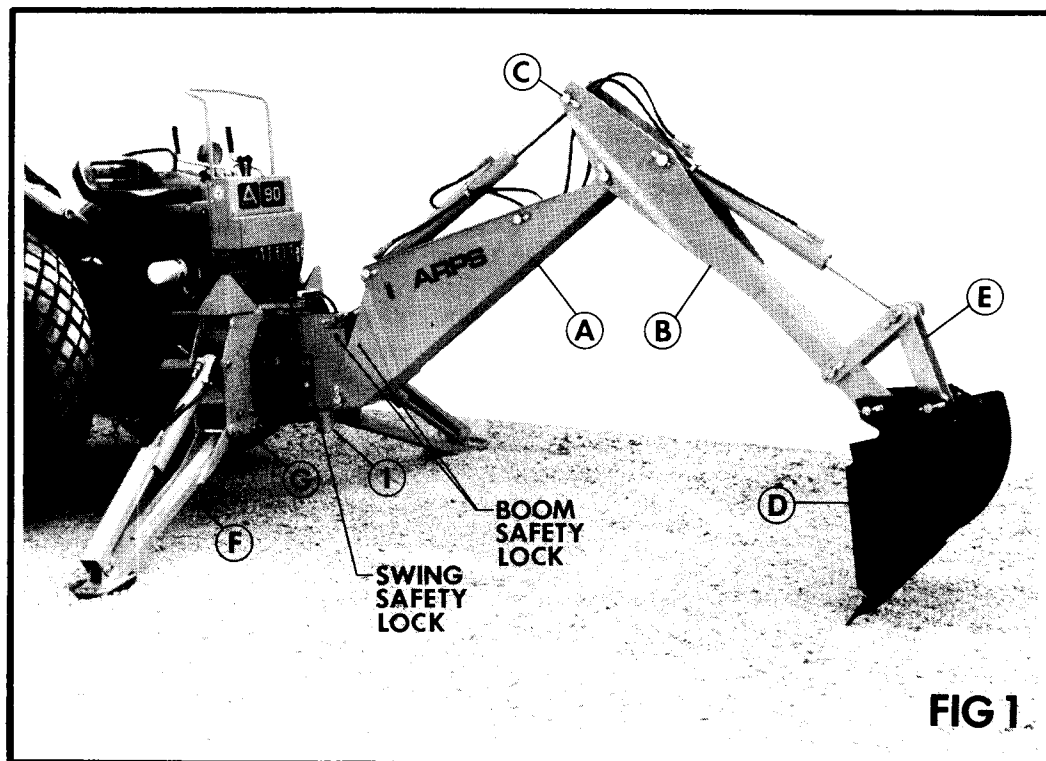

FIG 1
DISENGAGE safety locks as shown in Fig 1, before attempting to operate the backhoe.
ALWAYS engage safety locks as shown in Fig 1, before transporting backhoe.
1. DISENGAGE safety locks as shown in Fig 1, before attempting to operate the backhoe. Store lockpins in holes provided in top of valve shroud.
1. ALWAYS engage safety locks as shown in Fig 1, when transporting backhoe.